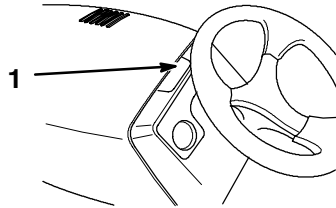

Figure 2
2. Push the hood latch to the left (Fig. 2).